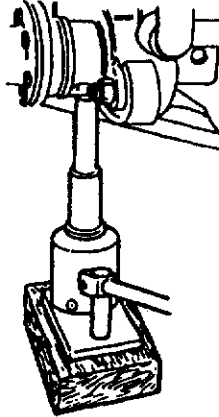

Figure 2-5 Jack Position - Front Wheels
- (1) Front wheel. Position the jack so that when raised, it will engage with the front axle casing immediately below the coil spring, where it will locate between the flange at the end of the axle casing and the large bracket to which the front suspension members are mounted (see Fig. 2-5).